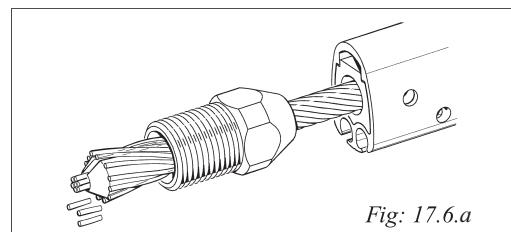

Fig: 17.6.a
7. Cut all wire strands protruding outside the wedge at the bend by approx. 5 mm (3/16"). See Fig: 17.6.a.